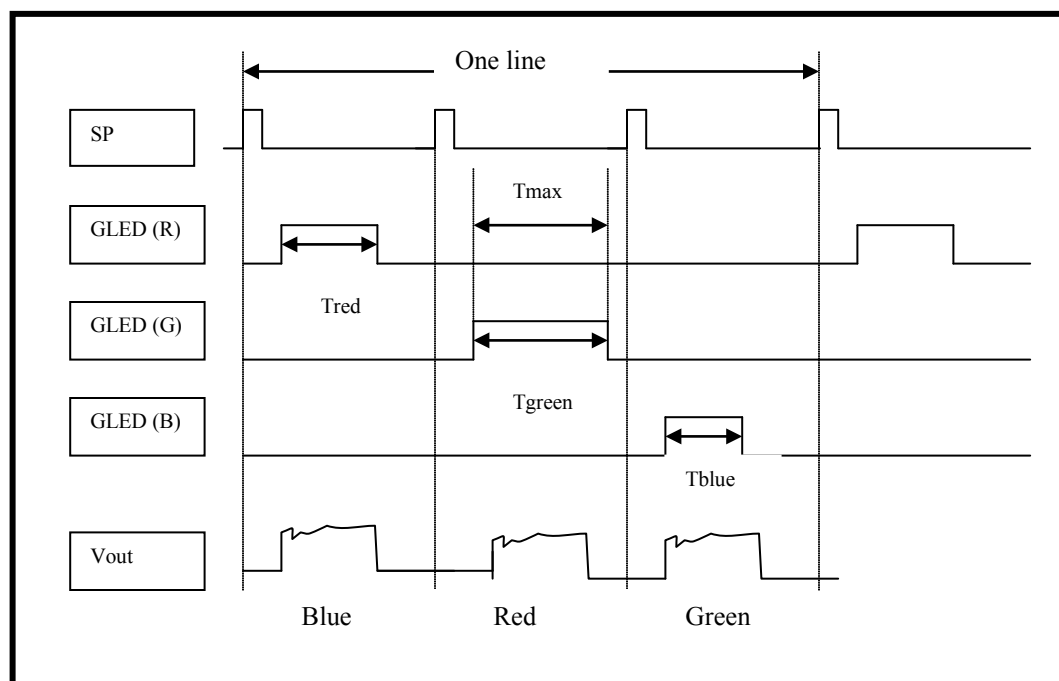

Figure 6. Timing diagram of the CIS module for color mode of operation.
The CIS module used for the color mode of operation is shown in figure 6. In this mode of operation, three LED light sources are pulsed. The following instruction is used to set the output signal level for three different color light source.
- 3.1.5 Reduced the pulse width of other two LED until the output signal is the same as a reference voltage. For example, the green LED pulse is set to T_{max} and the red and blue LED pulse is reduced as shown in figure 6.